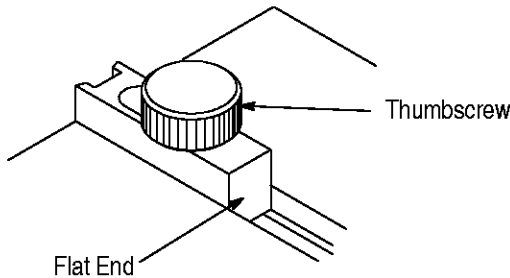

Figure 4
**NOTE** When terminating Type A backshells, the slotted end of the backstop should face the backshell; when terminating Type B backshells, the flat end of the backstop should face the backshell. See Figure 4.